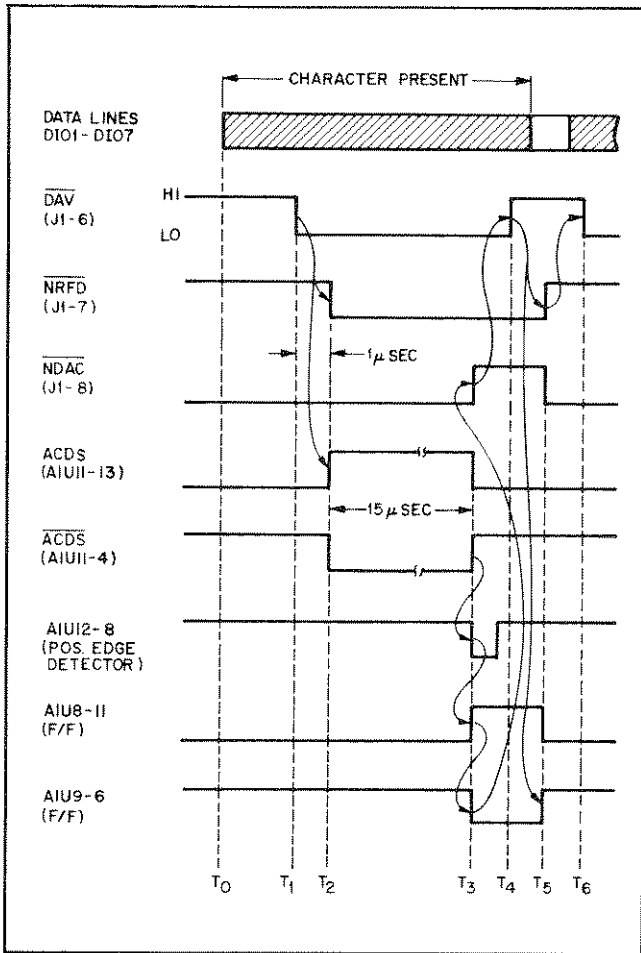
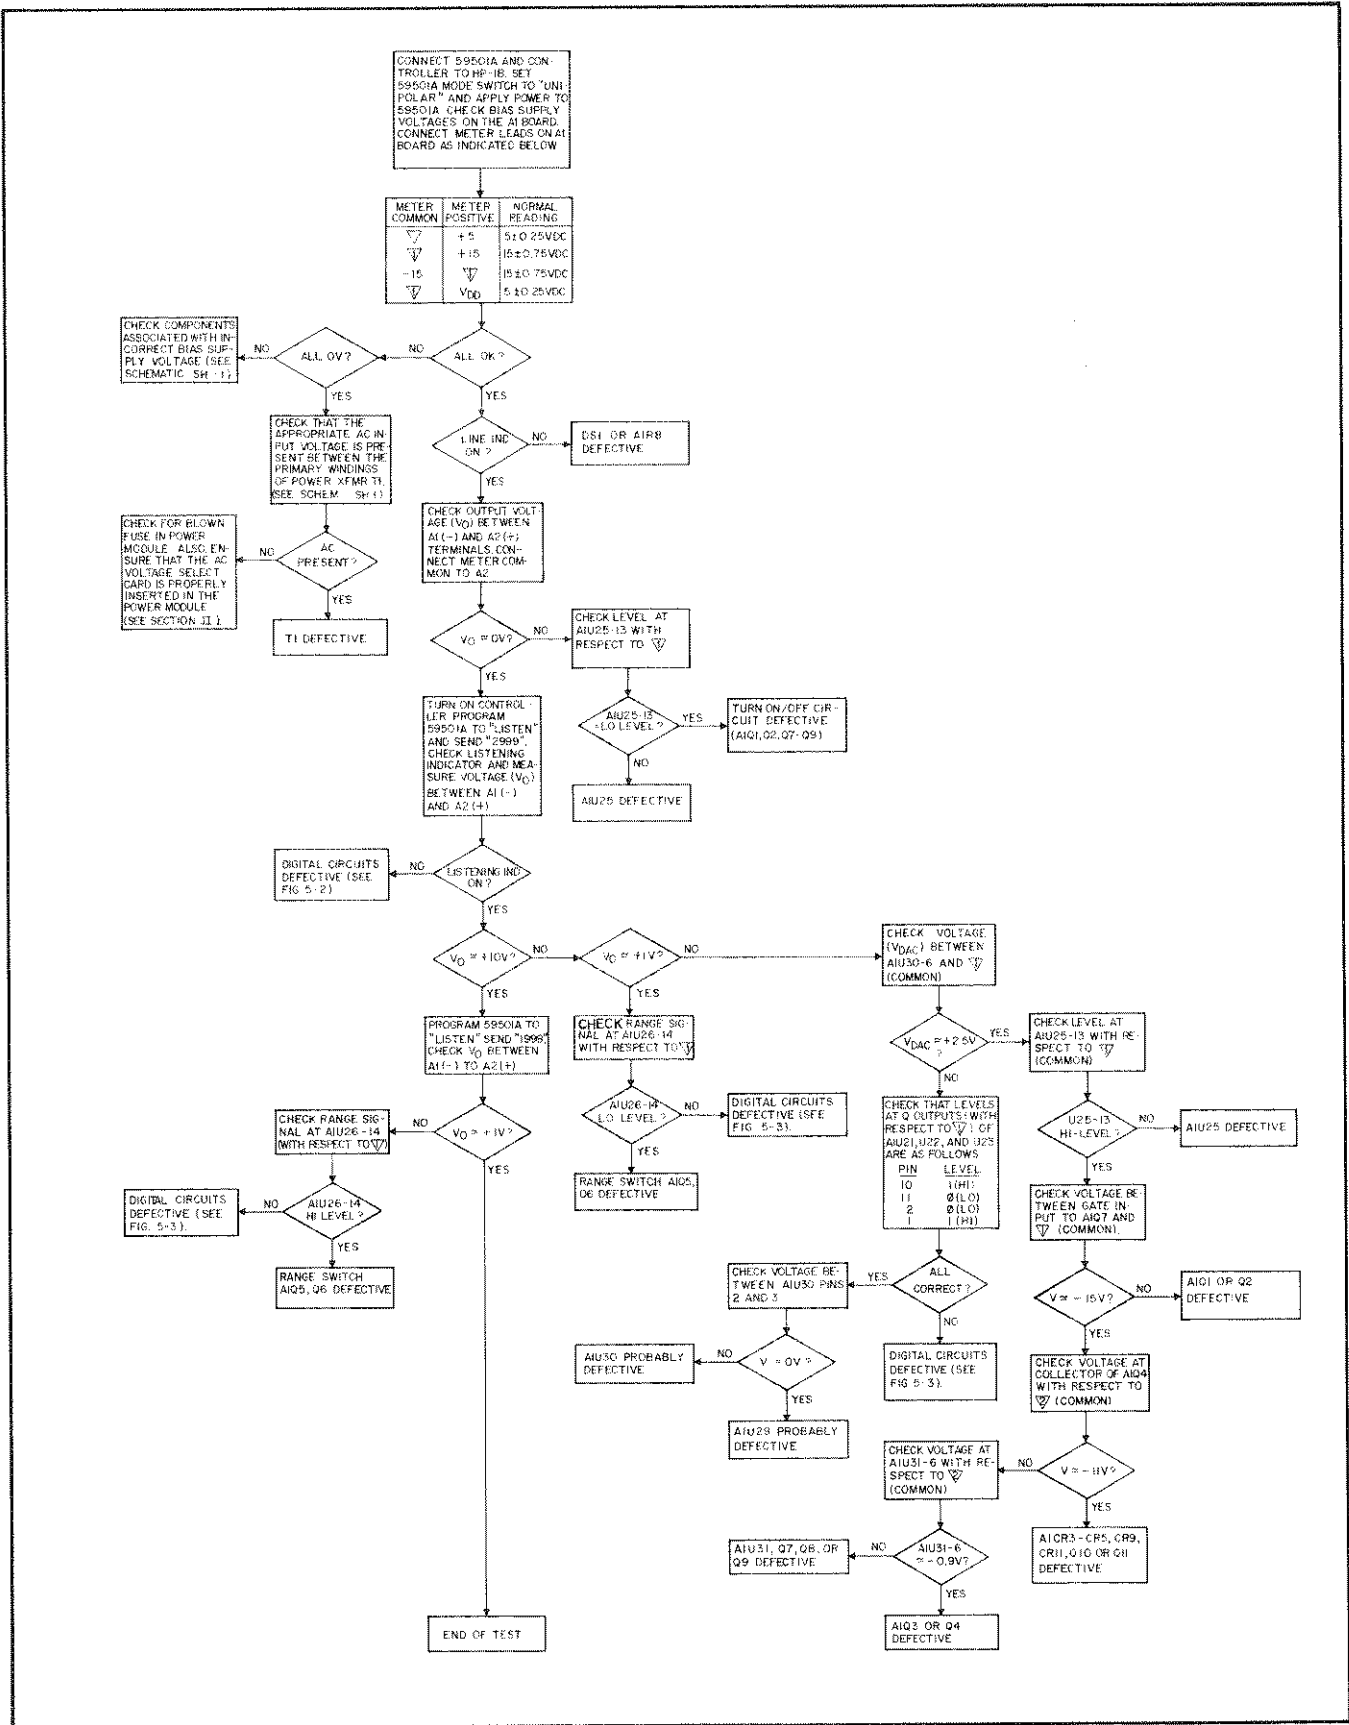
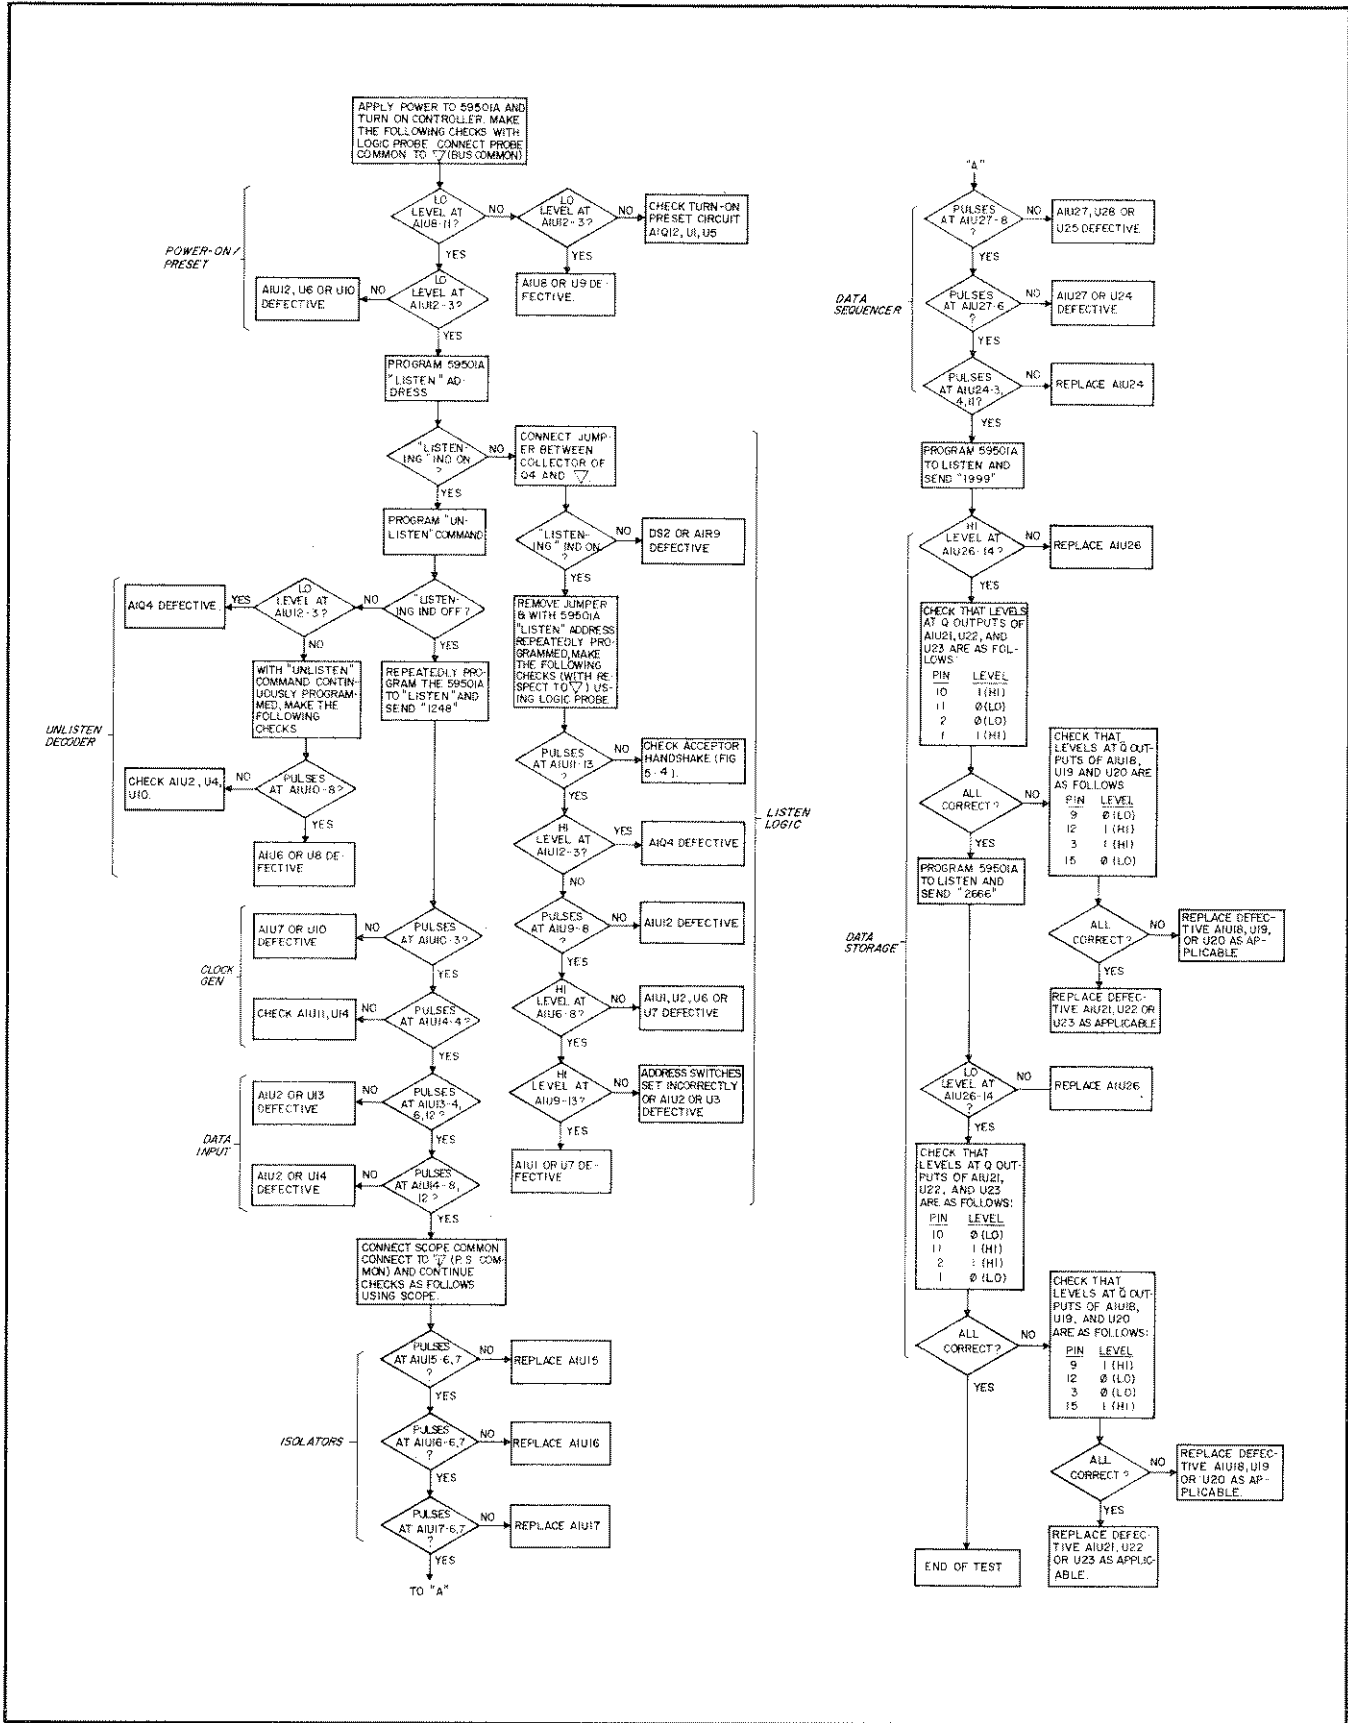
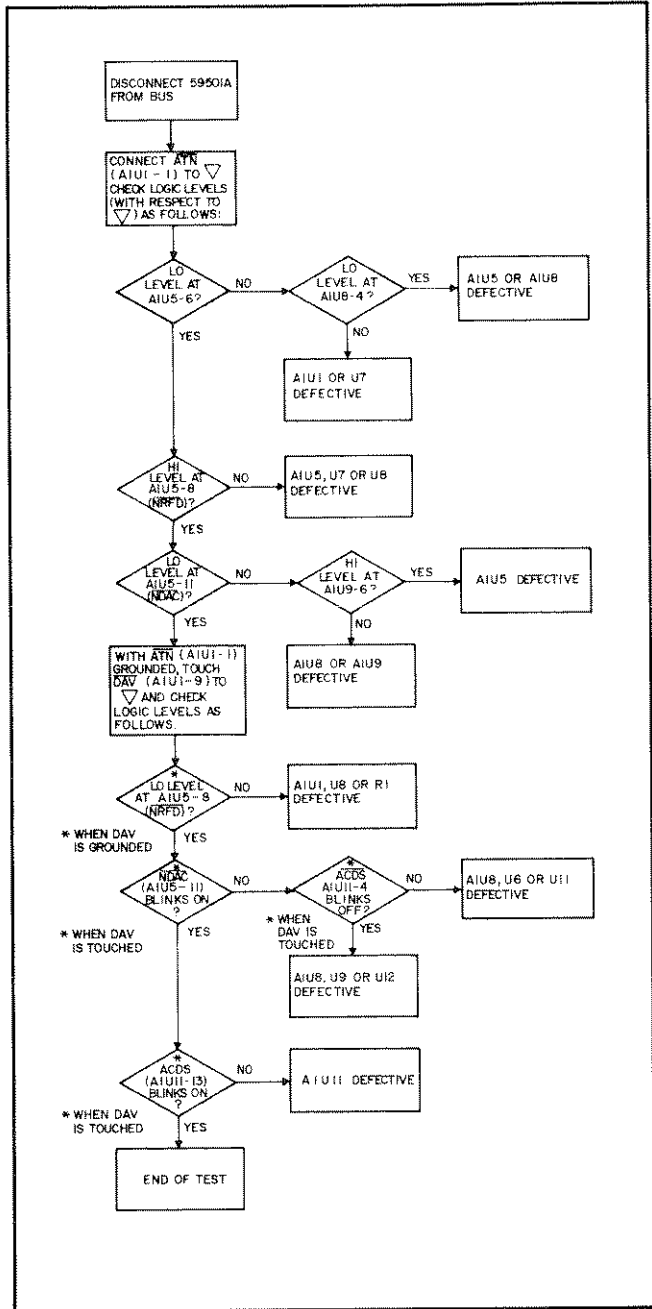

Figure 4-2. Acceptor Handshake Signals, Timing Diagram
Figure 5-2. Overall Troubleshooting Procedures, Flow Chart
Figure 5-3. Digital Circuits Troubleshooting, Flow Chart
Figure 5-4. Acceptor Handshake Circuits Troubleshooting, Flow Chart
data character received on the bus data lines  $\overline{\text{DI01}}-\overline{\text{DI07}}$ . Unrecognized command characters (e. g., talk address) will be ignored but the handshake cycle between the controller and the 59501A will occur anyway. The 3-wire handshake lines are designated  $\overline{\text{DAV}}$  (data valid),  $\overline{\text{NRFD}}$  (not ready for data), and  $\overline{\text{NDAC}}$  (data not accepted). The acceptor handshake circuit is enabled when the bus is in the command mode ( $\overline{\text{ATN}}$  is LO) or if the 59501A is in the listen mode (listen flip-flop set) and  $\overline{\text{ATN}}$  is HI (data mode). For either of the above conditions, the output of NAND gate U8-3 goes HI and NAND gate U5-6 goes LO enabling the acceptor handshake circuits. Figure 4-2 illustrates the 3-wire handshake cycle timing sequence for each character received by the 59501A in the command and data modes.
5-10 The troubleshooting procedures (Figures 5-2 through 5-4) assume that the controller is operating properly and that a malfunction exists in the 59501A. Before attempting to troubleshoot the 59501A, ensure that the fault was not caused by a programming error. Also, it is recommended that the reader review the circuit descriptions provided in Section IV. A good understanding of circuit operation will aid in troubleshooting. In order to troubleshoot the 59501A, the bottom cover must be removed.
**5-11 Overall Troubleshooting.** The overall troubleshooting procedures given in Figure 5-2 isolate a malfunction to the analog or digital sections of the 59501A. Analog circuit malfunctions are isolated to the component level. Additional troubleshooting flow charts (Figures 5-3 and 5-4) are provided for digital circuit malfunctions.
**5-12** The procedures given in Figure 5-2 first check the bias supply voltages to ensure that these voltages are correct before continuing with the troubleshooting. If the supply voltages are correct, the procedures continue to check if a malfunction is present in the analog or digital portions of the 59501A. If a malfunction is not detected, review the programming and operating instructions provided in Section III to check if the fault was caused by a programming or operating error.
**5-13 Digital Circuits Troubleshooting.** The digital circuits troubleshooting procedures given in Figure 5-3 isolate a malfunction to components within the circuits listed below or to the acceptor handshake circuit. A separate flow chart (Figure 5-4) is provided to troubleshoot the acceptor handshake circuit. Figure 5-3 checks the digital circuits in the following sequence:
**5-14 Acceptor Handshake Troubleshooting.** Figure 5-4 provides a static check of the acceptor handshake circuit. However, it is possible to have a condition where a faulty circuit would not be detected by performing these checks. If a timing problem is suspected, the acceptor handshake circuit must be checked dynamically. A dynamic test can be made by continuously programming the 59501A to "listen" and observing the handshake signals on an oscilloscope. The handshake cycle timing relationships are shown in Figure 4-2.